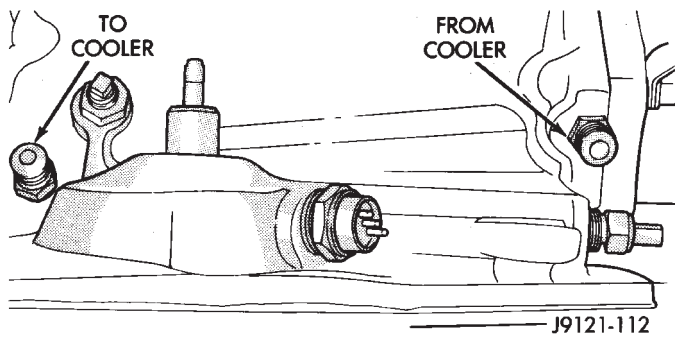

Fig. 9 Transmission Cooler Line Location And Identification
- (11) Connect transmission cooler lines to fittings. Refer to Figure 9 for cooler line identification.